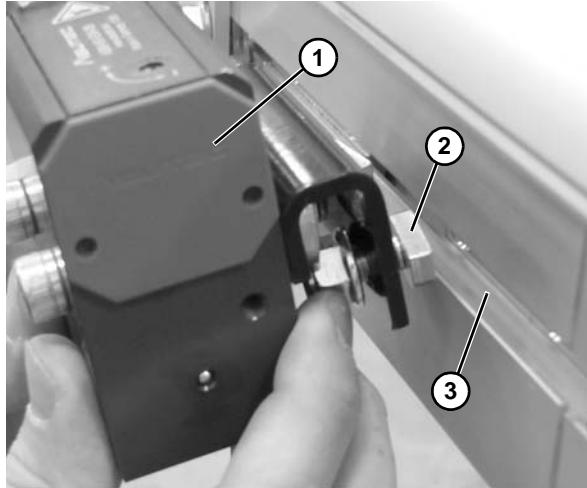

Figure 2
1. Install pallet stop (**Figure 2, item 1**) to the conveyor.
2. Make sure that the studs (**Figure 2, item 2**) are inside the channel (**Figure 2, item 3**) of the conveyor.
*Make sure that the studs (**Figure 2, item 2**) rotate inside the channel and engage with the conveyor.*